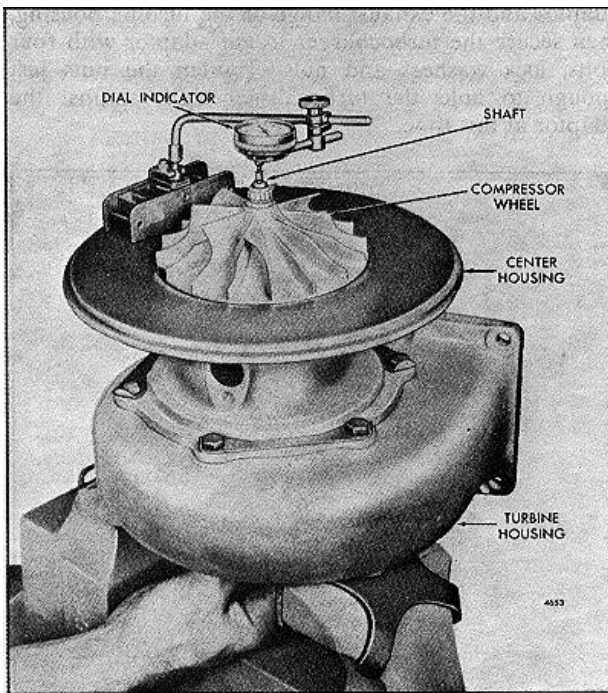

FIG. 34 - Checking Shaft End Play
- a. Clamp the turbine housing and center housing and rotating assembly in a bench vise equipped with soft jaws as shown in Fig. 34.